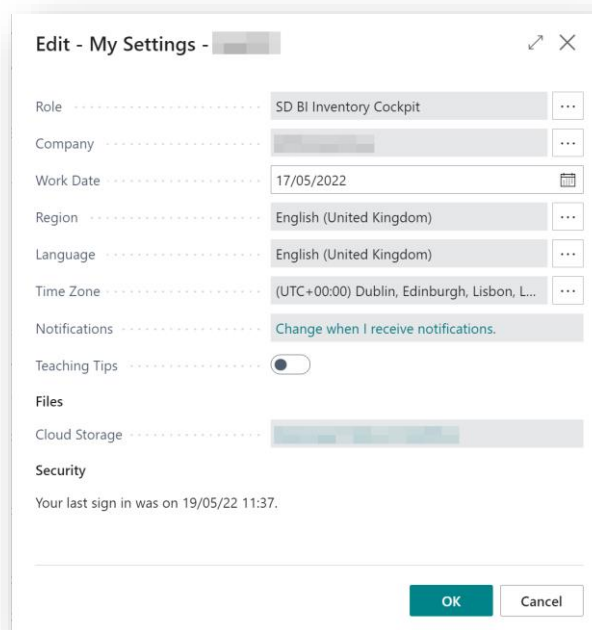

Figure 4-9
5. The **SD BI Inventory Cockpit Manager** Role should now be displayed in the **Role** field (*Figure 4-9*).